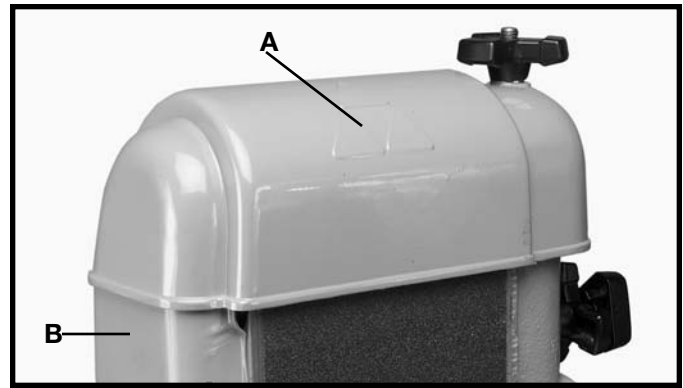

Fig. 20
1. Remove the idler drum guard (A) and side guard (B) Fig. 20.
1. Remove the side cover (B) Fig. 20 and top idler drum guard (A) Fig. 20.